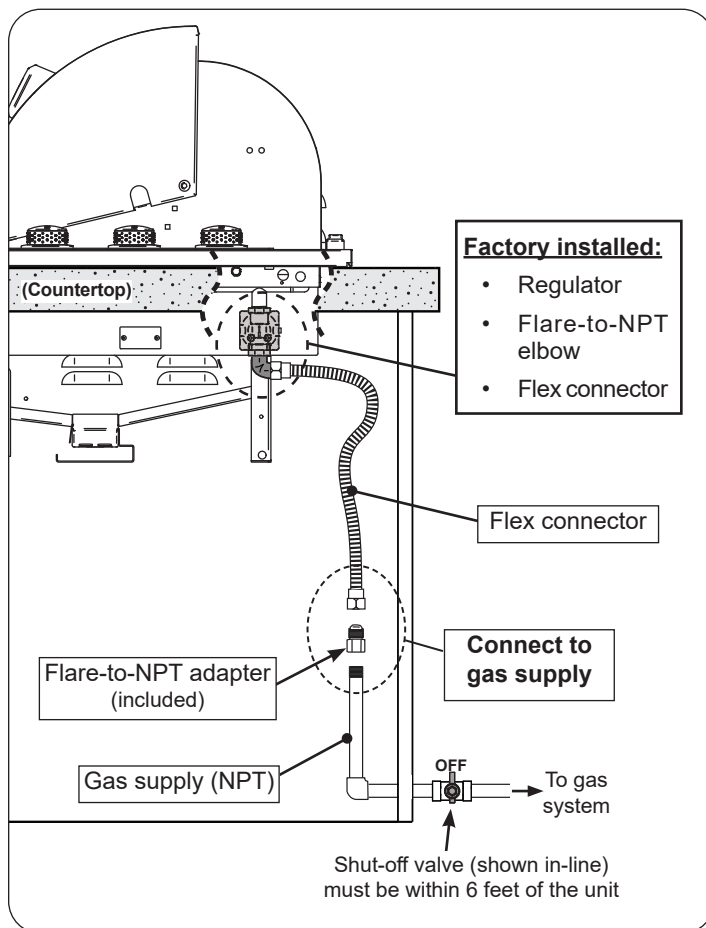

Fig. 31-1 Household L.P. & Nat. gas diagram
2. Route the flex connector (coming from the grill) to the gas supply (see Fig. 31-1).